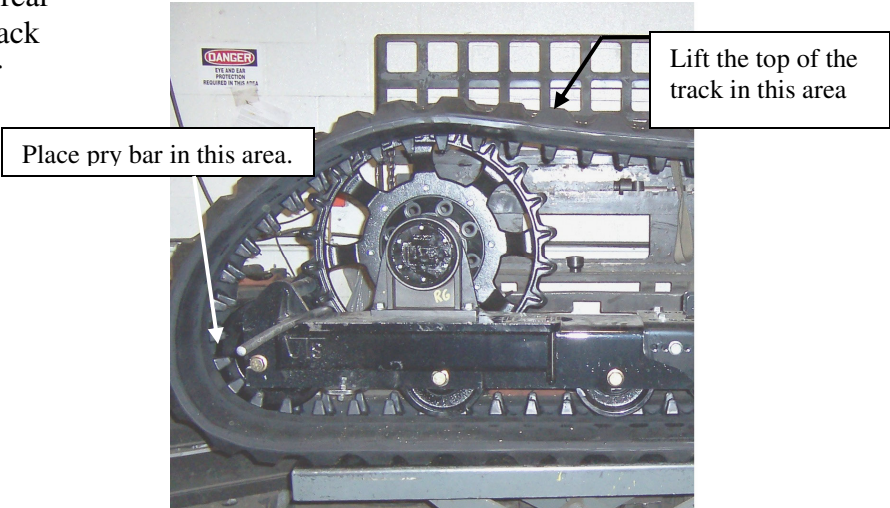

Fig. 3
7. Tension arm assembly installation. Ref. Fig. 3
- 8. Move to the rear of the VTS and place your hoist strap or chain in front of the sprocket, lift up the track with the hoist. **(Fig. 3)**
- 10. Once the track is off the sprocket place a pry bar between the rear idler and the inside of the track and pry outward so the idler comes out of the Track Idler Guides. **(Fig. 3)**